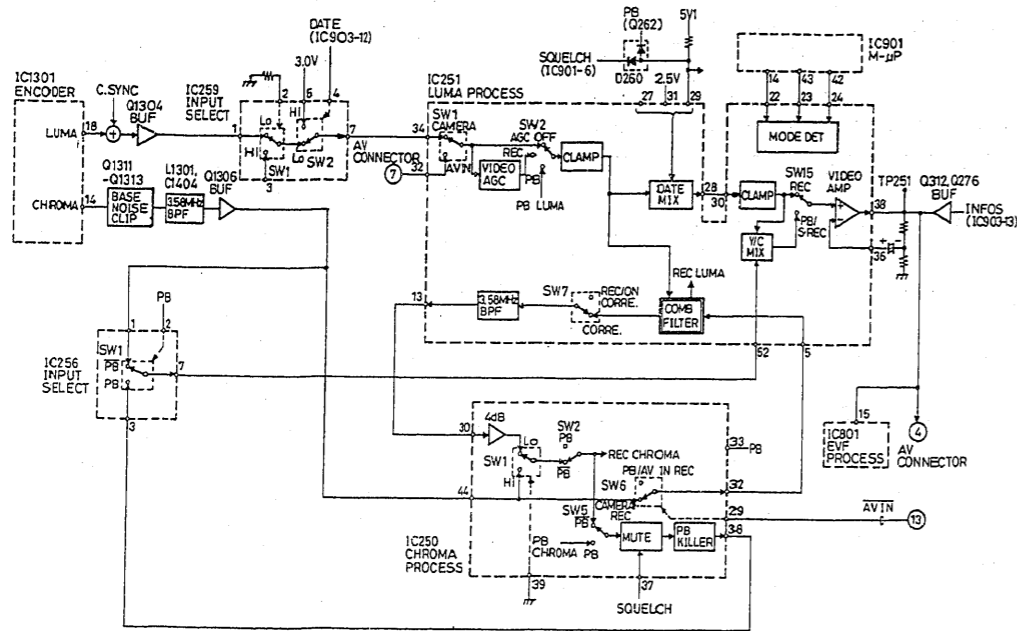

Fig. 2 Video Signal Input/Output Circuits
1. VIDEO SIGNAL INPUT/OUTPUT CIRCUITS (Fig. 2)